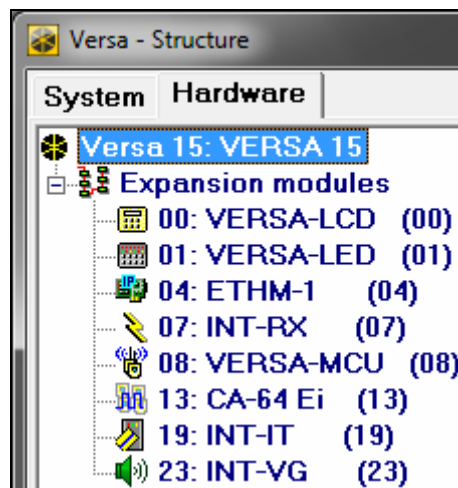

Fig. 12. DLOADX program: List of devices connected to the control panel, displayed in the "Hardware" tab, "Versa – Structure" window.
- DLOADX program: "Versa – Structure" window → "Hardware" tab. The list of devices is presented in the form of tree structure on the left side of the window (Fig. 12). Click on the name of device you want to configure.